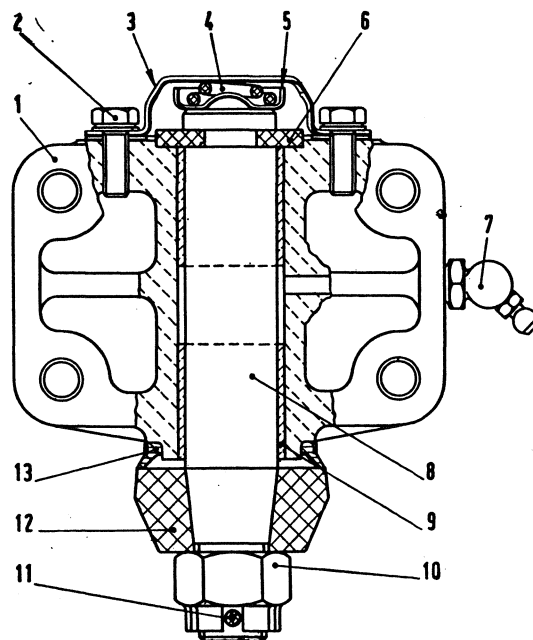

Fig. 343 - Section through relay lever support.
- clamp the support (1, fig. 343) in a vise;
- disinsert cotter pin (11) and back out relay lever mounting nut (10);
- pull out relay lever (12) and remove the rubber ring (13);
- remove upper cover (3), its gasket, spring (4) and cup (5);
- take off lockplate (6) and then disinsert pivot (8).
— Inspect spring (4, fig. 343) and, if weak or distorted, fit a new spring. This will prevent the development of axial play between pivot and its support.
— Check the condition of bushes (9, fig. 343): if ovalized or if play with pivot is excessive, remove and replace with new bushes. Specified bush-to-pivot fit clearance is .00047" to .0021" (0,012 to 0,054 mm).